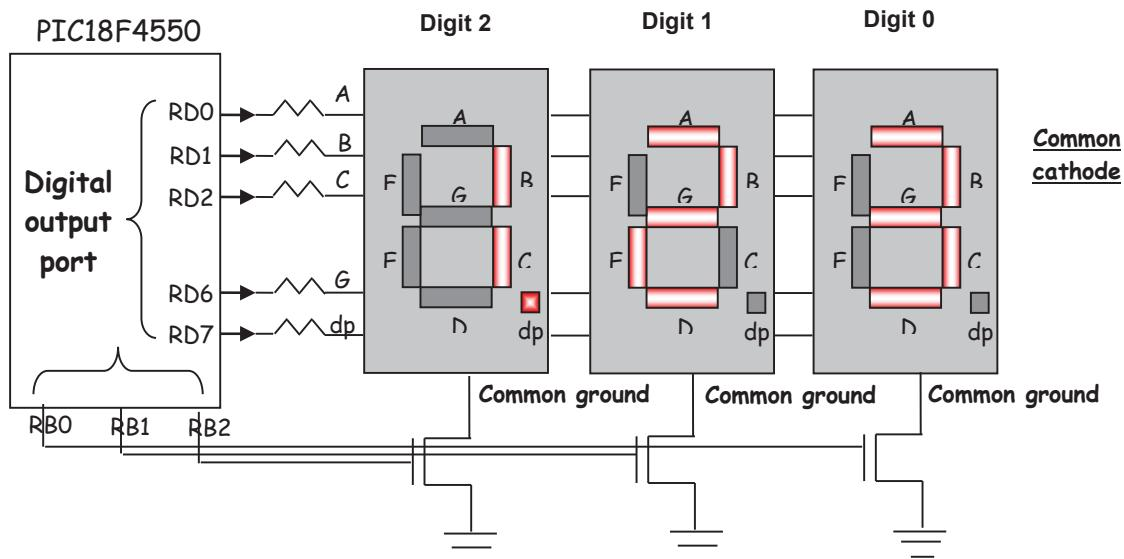

Figure 3.11 – multi-digit 7 segment display
- In Figure 3.11, “common cathode” displays are used (i.e. a logic ‘1’ to light up a segment). RB2=1 enables Digit2, RB1=1 enables Digit1, RB0=1 enables Digit0.